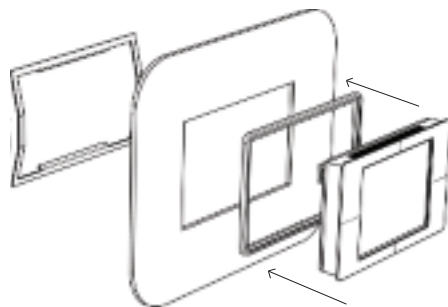

Figure 1
- Attach the mounting clip from the rear as shown in Figure 1.